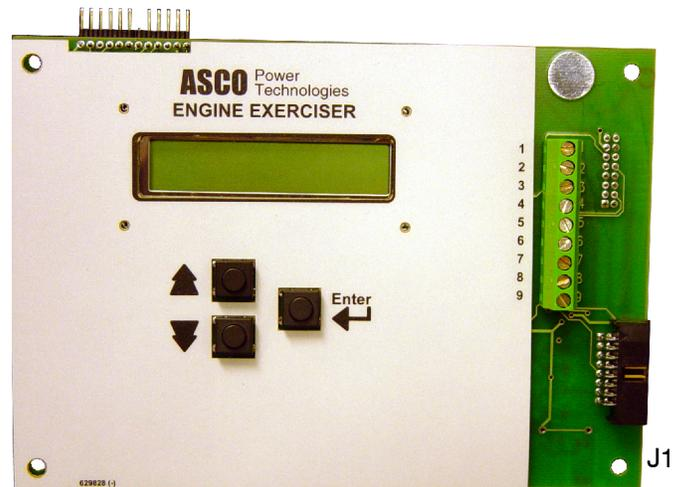

Figure 1. Accessory 11BG Module in kits.
Connecting the Module – Figures 1, 2, 4
2. Unplug the ribbon cable (coming from the Controller) from the operator interface (J3 lower right side) and reconnect it (same orientation) to the Acc. 11BG module (J1 lower right side). See Figures 1, 2, & 4.